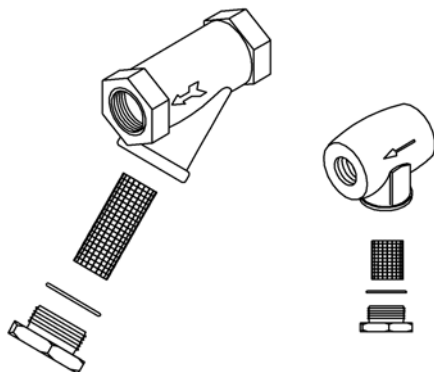

Figure 3-1 Water Strainer Assembly
2. Unscrew the filter cap from the bottom of the strainer. Refer to Figure 3-1, which shows the various strainers supplied with the different steamers.